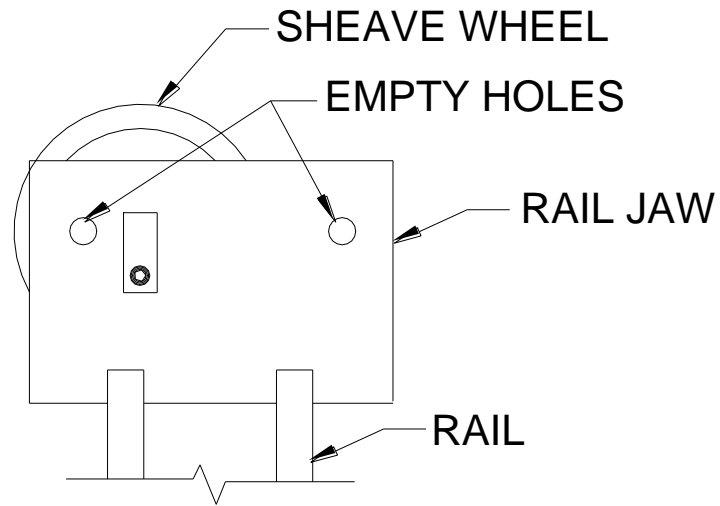

Figure 8
1. Place Rail Jaw Assembly on the top of the rail with the sheave to the left (or jack side) as shown in Figure 8.